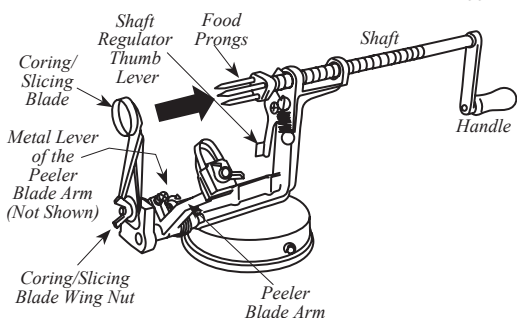

FIGURE 1
2. Press Shaft Regulator Thumb Lever to release the stopper from the Shaft. Pull on the Handle until the Shaft is completely pulled back (FIGURE 1).